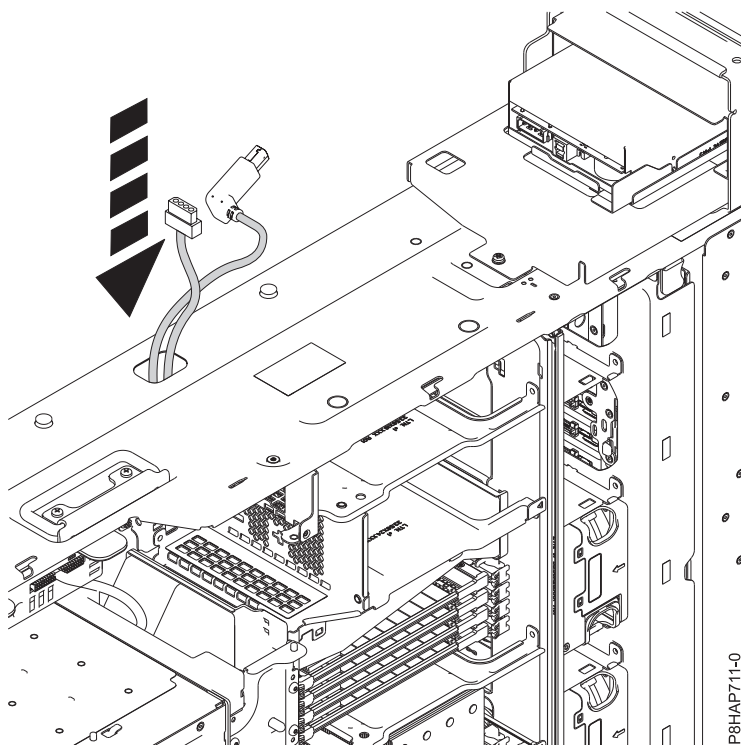

Figure 66. Routing the internal RDX docking station (FC EUA3) USB and power supply cables
3. Guide the internal RDX docking station (FC EUA3) USB and power supply cables down through the chassis' cable management hole as shown in Figure 66.